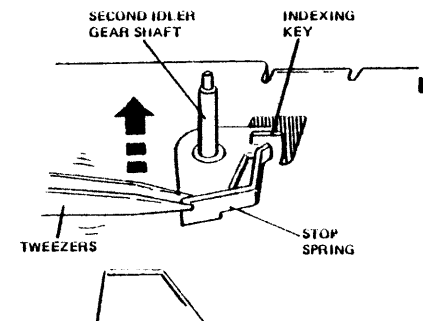

FIGURE 4-16
1. Replace the stop spring on the second idler gear shaft on the front plate (see Figure 4-16).